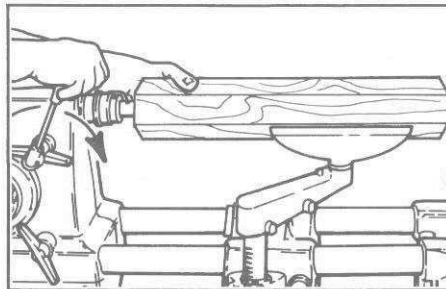

Figure 4. Mounting the stock.
e. Hold the end of the stock against the cup center, then extend the quill and mount the other end on the drive center. Press hard against the quill feed lever, then lock the quill. (See Figure 4.)